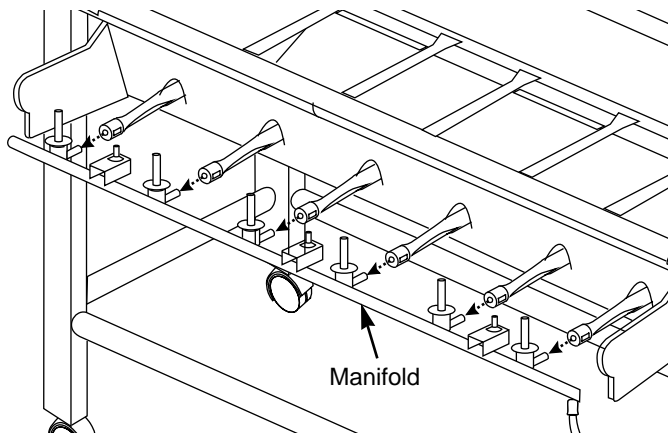

Figure 19
11. Pull the manifold out of the burners. Figure 19.